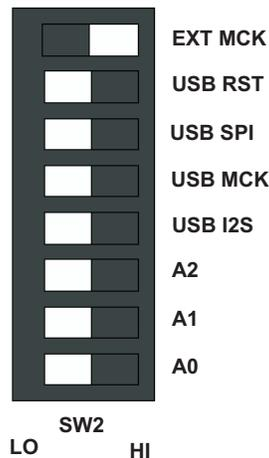

Figure 1. USB-MODEVM SW2 Settings
2. SW2 on the USB-MODEVM must be set as in Figure 1: SW2.8 (EXT MCLK) is set to HI (OFF) whereas all other switches (SW2.1-SW2.7) are set to LO (ON). This switch setting selects the USB-MODEM's EEPROM as the firmware source and is used for normal operation of the GUI using USB Audio. For external audio configurations, see the user's guide corresponding to the EVM being evaluated.